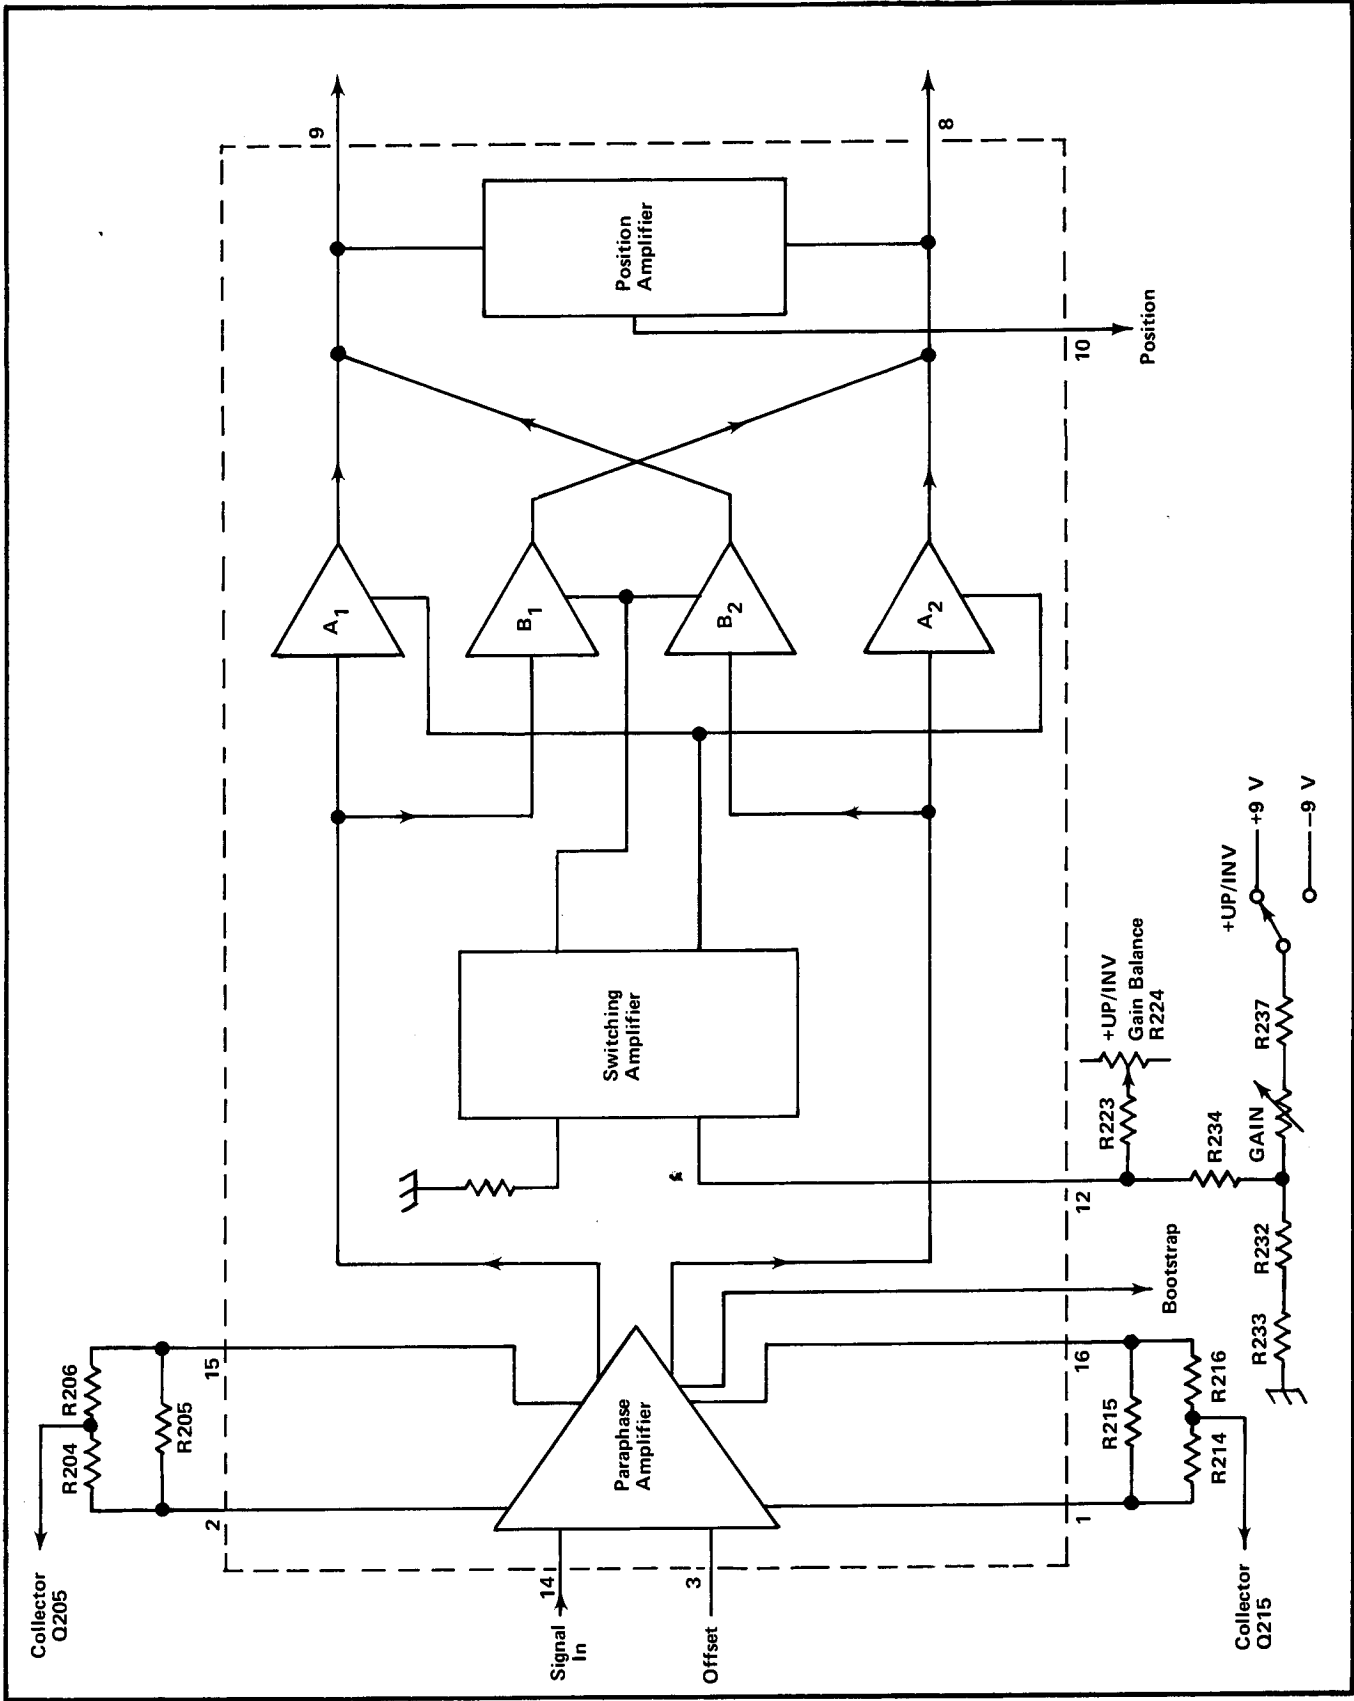

Fig. 3-1. Block representation of U225.
In addition to a balanced output, the generator provides a bootstrap voltage to the integrated circuit U225. This voltage maintains the quiescent operating parameters of the paraphase amplifier (see Fig. 3-1). Q32 is a constant current generator giving a fixed potential across R33. Therefore, in a balanced condition the potential between the signal out and the bootstrap out is kept constant.
The Tektronix-made integrated circuit (IC) U225 provides gain control, polarity switching, and vertical positioning. Refer to the block diagram in Fig. 3-1, keeping in mind that it is only a representation to be used in explaining the overall operation of the IC.
**Bootstrap Amplifier** (see circuit description for bootstrap). The resultant output of the Paraphase Amplifier is a DC compensated differential (push-pull) signal. This differential output is routed thru a pair of "steering" amplifiers labeled A1, A2, B1 and B2 on Fig. 3-1.